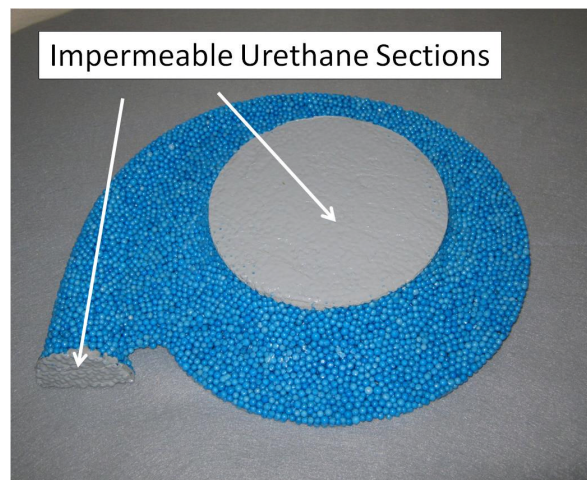

Figure 1. HYVAC fixture with impermeable section.
- 1.1. Before mixing a HYVAC kit, it is important to consider if any areas of the fixture will need to be impermeable to air. Areas of cured HYVAC material can be sealed off with a urethane sealant (3M PowerLine 550 is recommended), as shown in Figure 1.